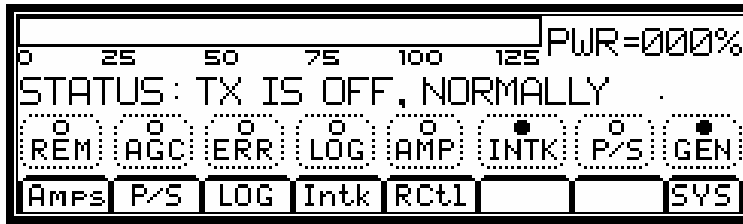

Figure 7 Main Menu
- On the LCD (see Main Menu display in Figure 7), the PWR should be at 000% and the STATUS should be TX IS OFF, NORMALLY.